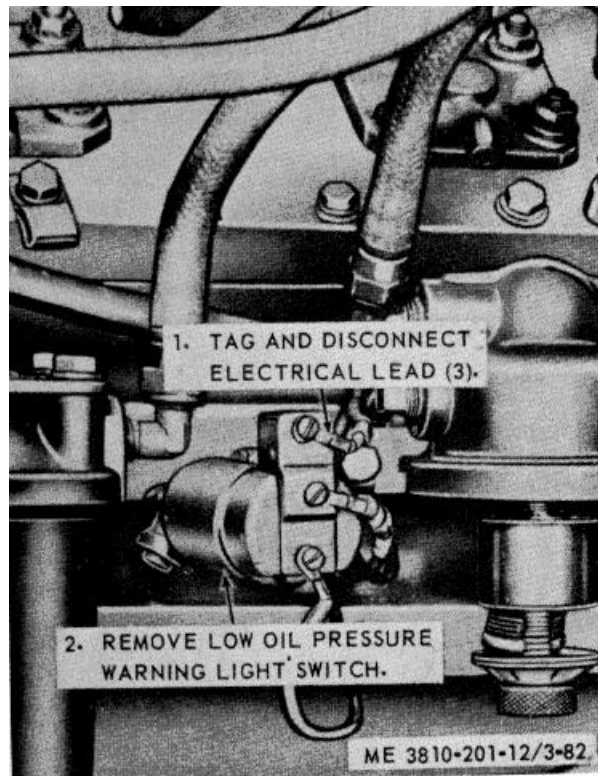

Figure 3-82. Low Oil pressure switch, removal and installation.
(1) Refer to figure 3-82, tag and disconnect three electrical leads, then remove low oil pressure switch from engine model 687C-18-ES. Install in reverse order.
(2) Remove low oil pressure switch from engine model D333TA in a manner similar to that given in (1) above.